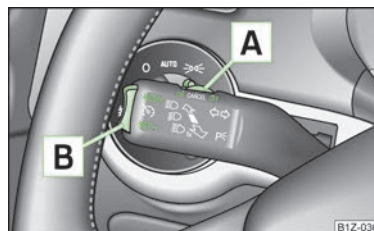

Fig. 100
- Turn the switch **A** » Fig. 100 into the **ON** position.
- Press the rocker button **[B]** » Fig. 100 on page 99 into the **RES** position.
- The stored speed can be **reduced** by pressing the rocker button **[B]** » Fig. 100 on page 99 into the position **SET**.
The cruise control system is **temporarily switched off** by pressing the switch **[A]** » Fig. 100 on page 99 into the spring-tensioned position **CANCEL** or by depressing the brake or clutch pedal.
- Turn the switch **[A]** » Fig. 100 on page 99 into the **OFF** position.